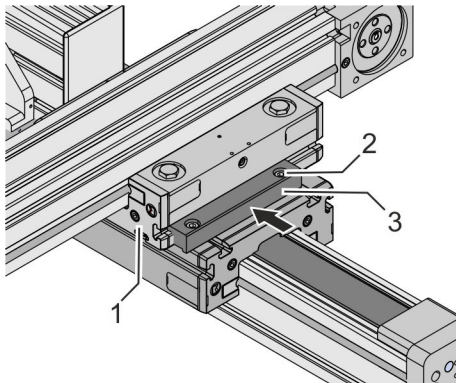

Fig. 26: Fixing clamping bars
3. ➔ Place the module (Fig. 26/1, e.g. a crossing unit) between the clamping bars (Fig. 26/3).
4. ➔ Push the clamping bars (Fig. 26/3) to the module (Fig. 26/1) from both sides.
5. ➔ Tighten two screws (Fig. 26/2) for each clamping bar (Fig. 26/3).